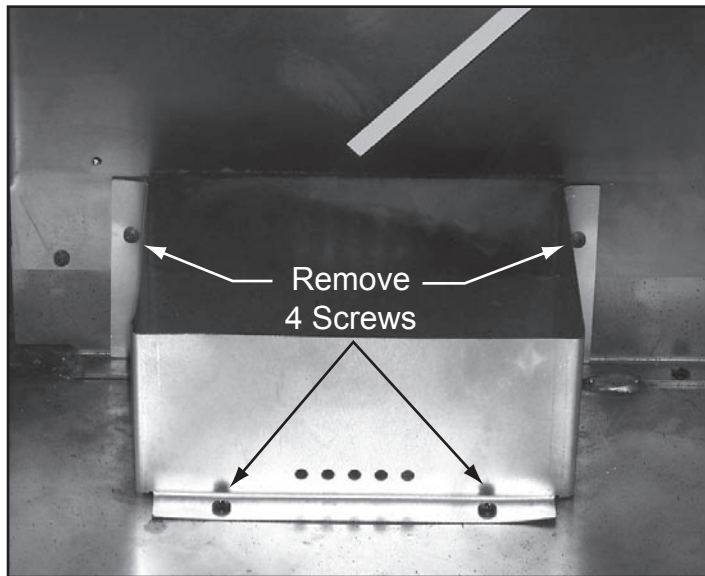

Figure 5 Remove Pilot Shield
- Remove pilot shield by removing the four screws holding it in place (Figure 5).